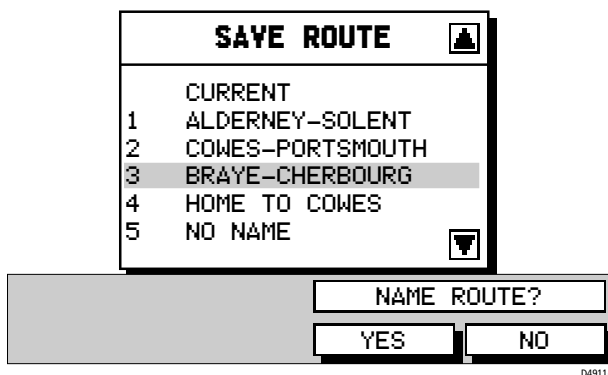

Figure 3-32: Save Route Soft Keys
2. Press the SAVE ROUTE soft key. The Save Route List and the NAME ROUTE soft keys are displayed as shown in Figure 3-32 with the next available entry on the Route List highlighted.